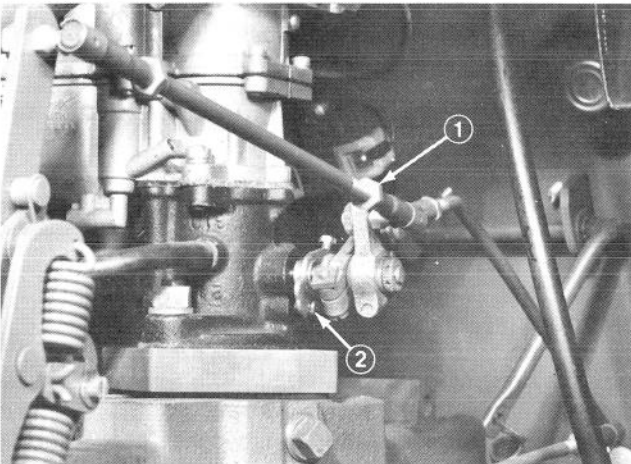

Figure 60
3. With the engine shut off, move the throttle lever to full speed position (all the way back). Loosen the jam nuts and adjust the length of the control rod between the carburetor bell crank and the stop pin on the carburetor (Fig. 60).